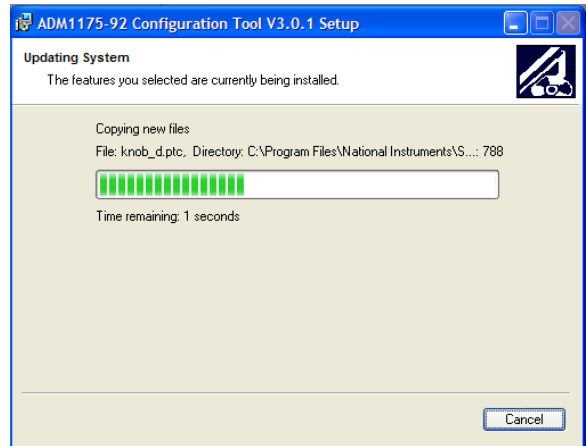

Figure 8. Installation in Progress
6. Choose to step back and reenter installation information, stop installation, or begin installation. To begin installation, click **Next**. The installation runs as shown in Figure 8.